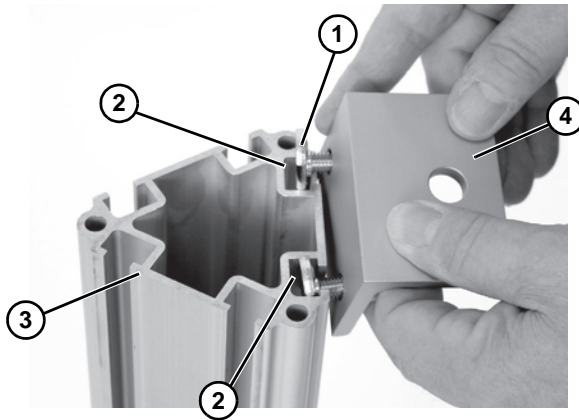

Figure 12
4. Align nuts (**Figure 12, item 1**) with t-slots (**Figure 12, item 2**) on one side of trileg post (**Figure 12, item 3**). Slide the foot bracket (**Figure 12, item 4**) onto the post.